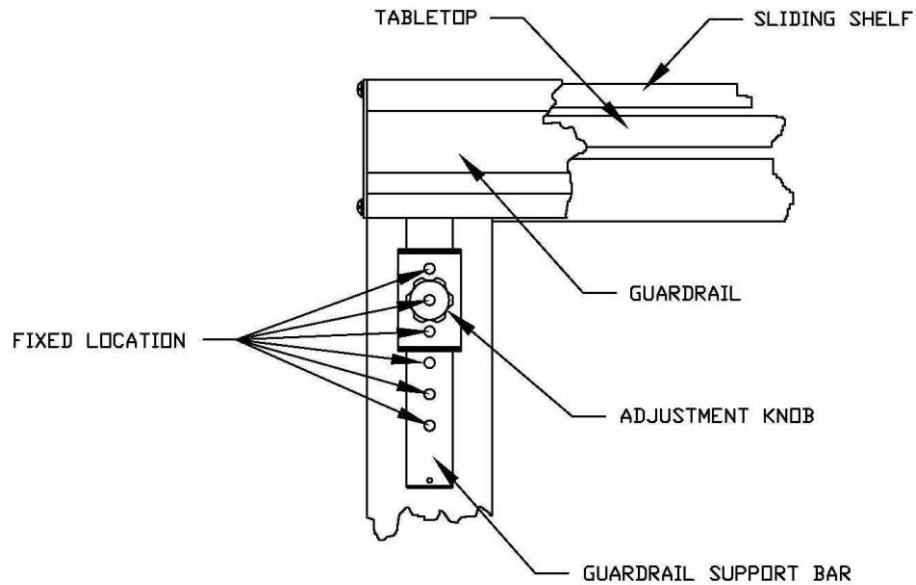
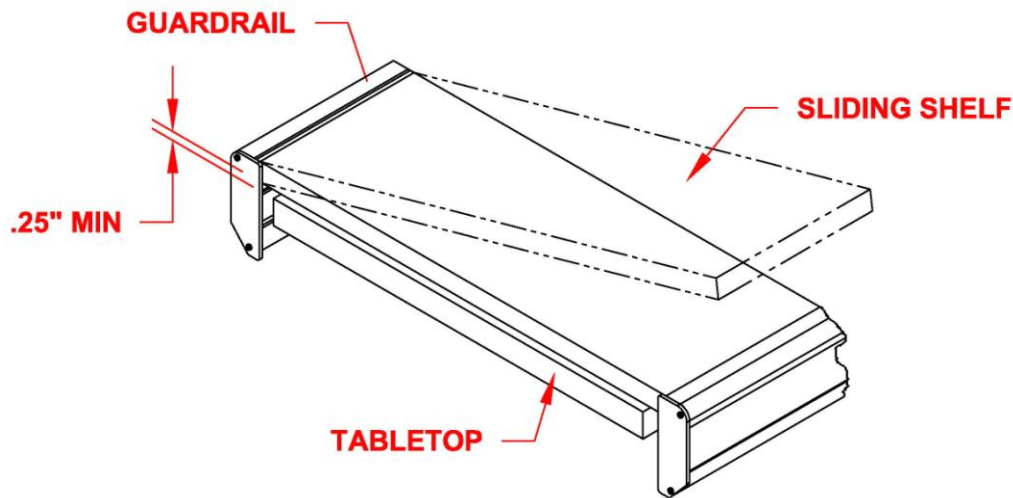

Figure 6. 9100/9200 Guardrail Height Adjustment.
Figure 7. Sliding Shelf Illustration
2. To adjust the Guardrail height, loosen the Adjustment Knob on both sides of the Guardrail and raise or lower the Guardrail evenly (as shown in Fig. 6). It is not necessary for the front and rear Guardrails to be at the same height, except when used with an optional Sliding Shelf. With a Sliding Shelf, the Guardrail must be adjusted to allow a minimum of $\frac{1}{4}$ inch clearance between the bottom surface of the Shelf and the Top surface of the tabletop (as shown in Fig. 7).
3. The Sliding Shelf or shelves simply drop onto the front and back guardrails (as shown in Fig. 7). They can then be slid into any position desired.